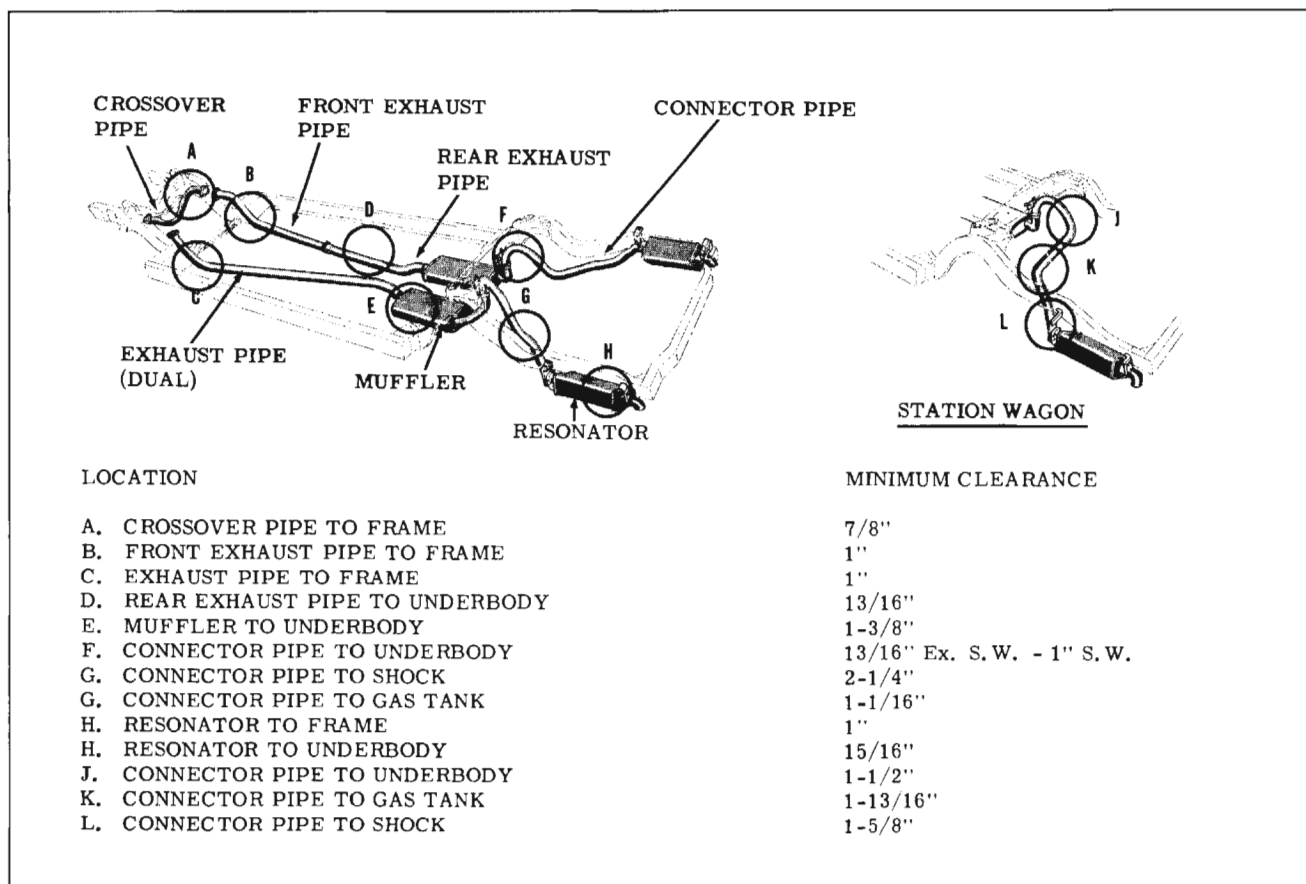

Fig. 8-63 Clearance Specifications for Exhaust System Parts
- Before tightening any part of the exhaust system, align the exhaust system pipes to provide adequate clearance between the body and frame. (Fig. 8-63)